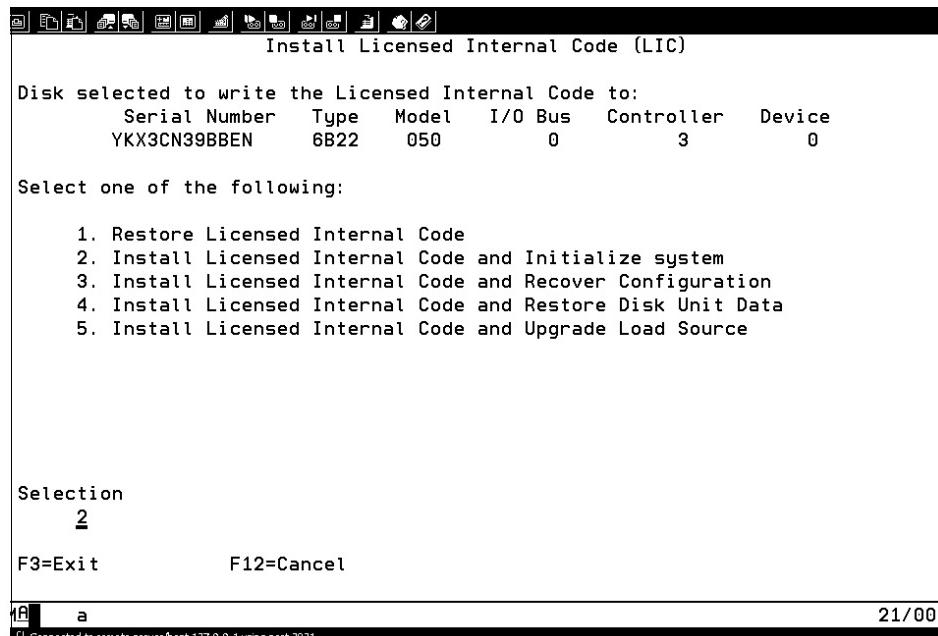

Figure 7-53 Select options
8. The install Licensed Code (LIC) menu appears on the console as shown in Figure 7-53 on page 298. Type 2 for Install Licensed Internal Code and Initialize system, then press **Enter** to continue.